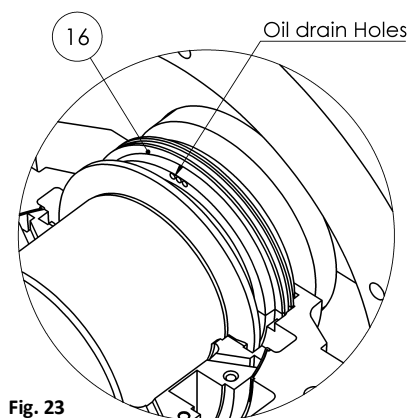
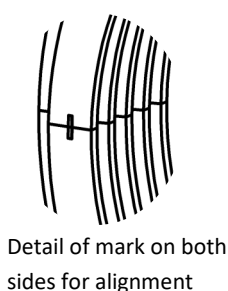

Fig. 23
Fig. 24
- Place the lower part of the seal (16) on the shaft (Fig.23) and turn the seal back and slightly to the correct position to dispense the sealant evenly (Fig.24) the anti-rotating lug must sit in the groove in the split line).